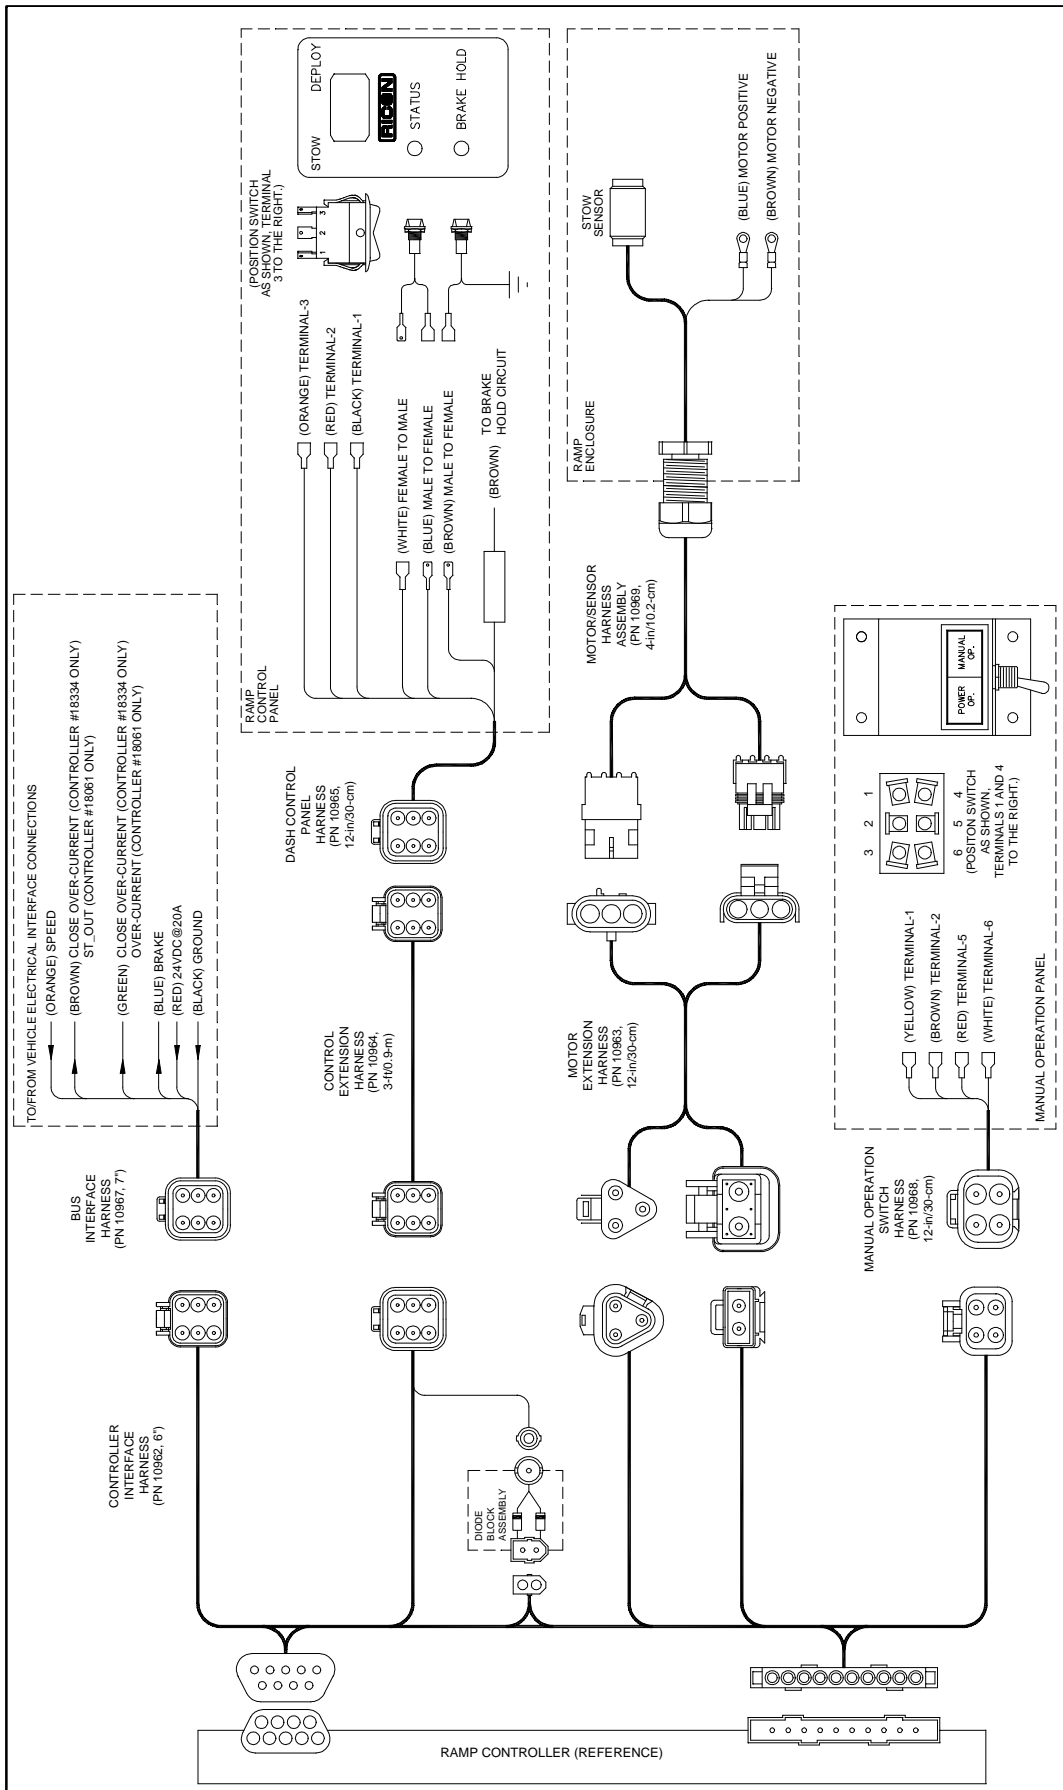

FIGURE 2-5: ELECTRICAL INTERCONNECT DIAGRAM (FOR CONTROLLERS #18334 & #18061 ONLY)
b. Refer to Figures 2-5 & 2-6. At controller, connect controller interface harness.